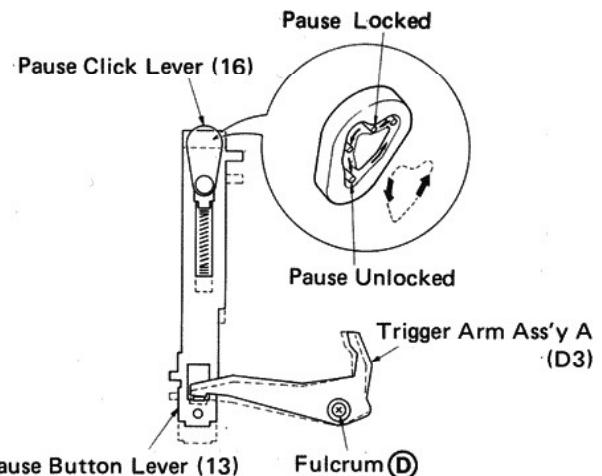

Fig. 10
The trigger arm assembly (D3) is locked and held by the pause button lever (13). (Fig. 10)